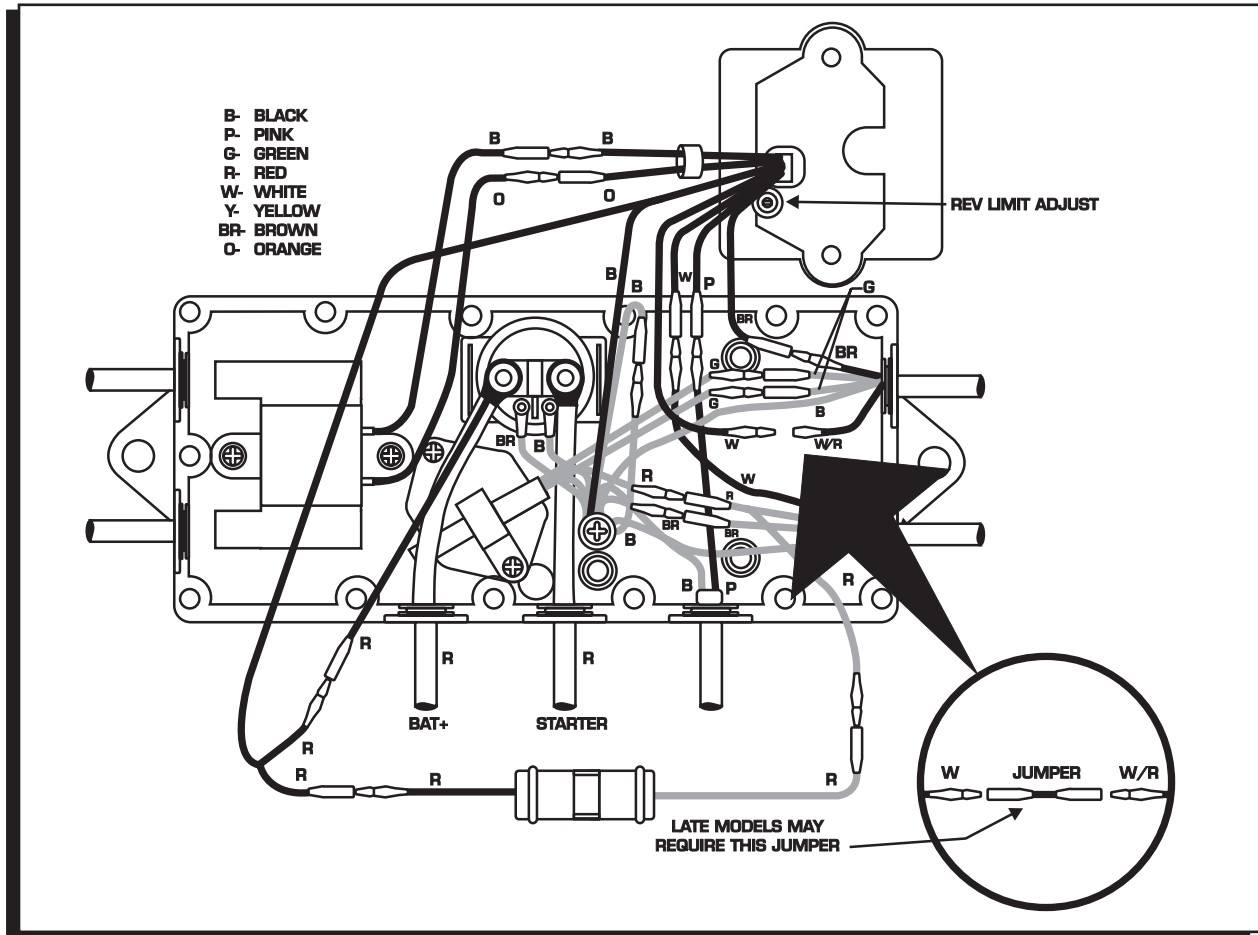

Figure 1 Wiring the Ignition Enhancer.
5. Connect the color coded wires of the Enhancer to the factory wiring harness. Refer to Figure 1 for wiring. Make sure all connections are tight and fully seated. The PINK wire coming from the Enhancer is for the Holeshoot/Overtemp feature and is explained in following sections.
6. The Enhancer Ignition will have an additional RED Wire that splits. This will connect just before the in-line fuse (See Fig. 1).
**Note:** If you are installing the Enhancer Ignition on a late model Yamaha Watercraft and find that the connector on the Enhancers White wire does not match the connector on the factory White/Red wire, then you need to install the supplied White jumper wire. This jumper will allow the connectors on the White and White/Red wires to match (See the insert in Figure1).
This installation provides you with the Overtemp feature only. Refer to Figure 1 for wiring.